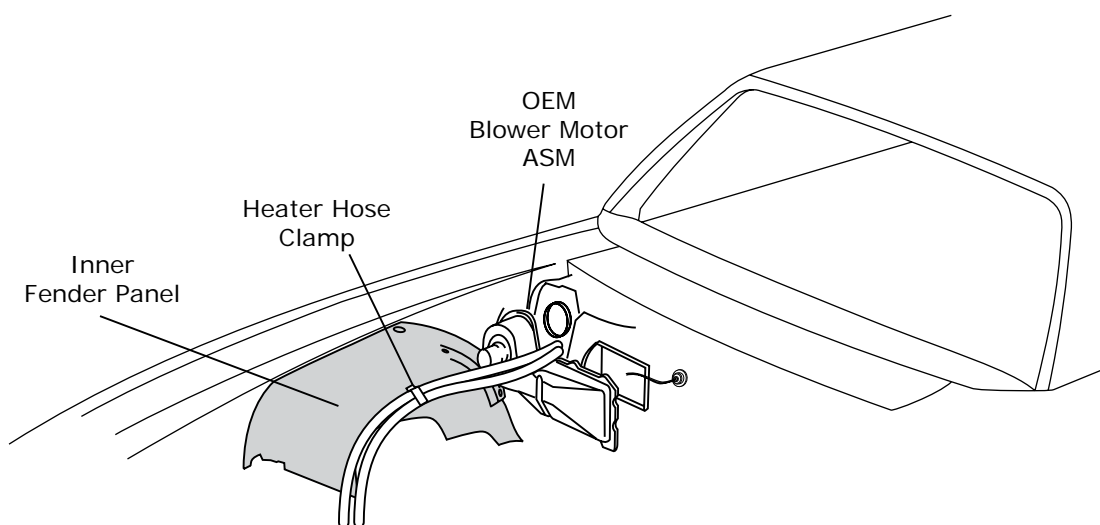

Figure 1
5. OEM heater hoses (discard) (See Figure 1, below).
6. OEM heater wiring/vacuum harness molded grommet (See Figure 1, below).